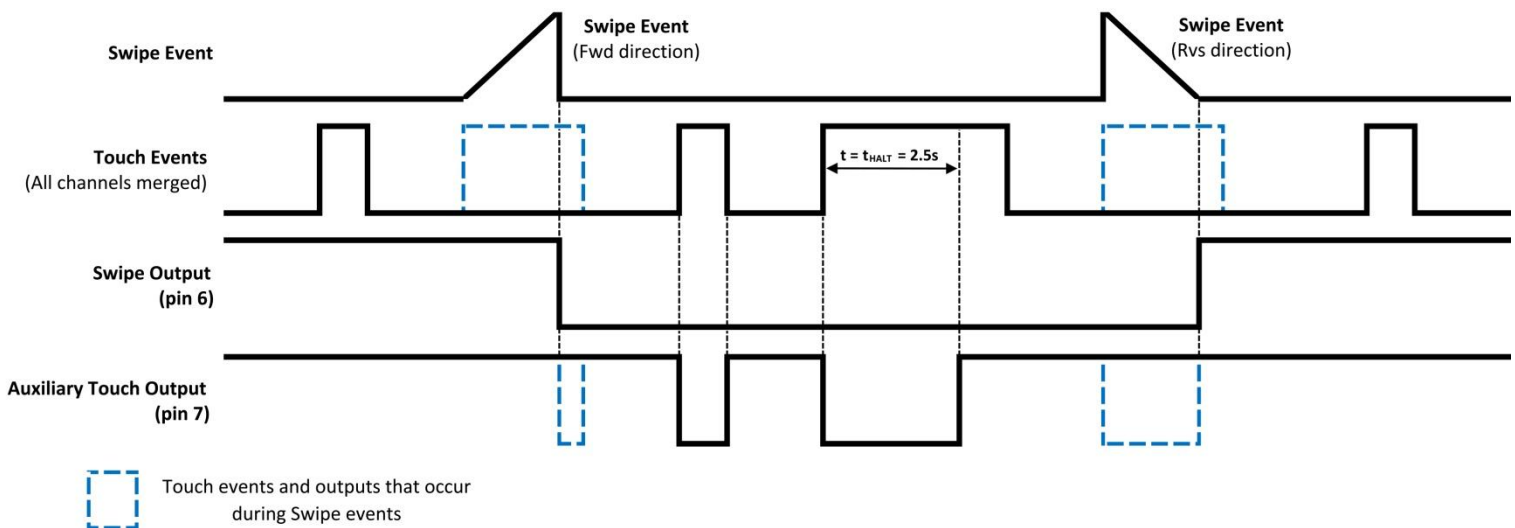

Figure 5.1 : IQS213A setup example 1
Example 1 (see **Figure 5.1**) illustrates the user interface (UI) and device outputs for a **3-Channel Self Capacitive SwipeSwitch** (output on pin 6), in an active low configuration with the Directional UI and Auxiliary Touch Output on pin 7.